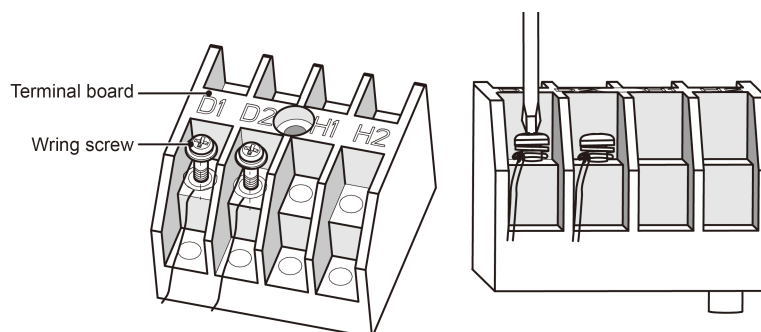

Fig.4.19
- (1) Detach the electric box lid of Hydro Box.
- (2) Let the Communication cable pass through the wiring through-holes.
- (3) Connect the communication wire to terminal D1 and D2 of Hydro Box 4-bit wiring board, as shown in Fig.4.19.
- (4) Fix the communication cable with clamp of electric box.